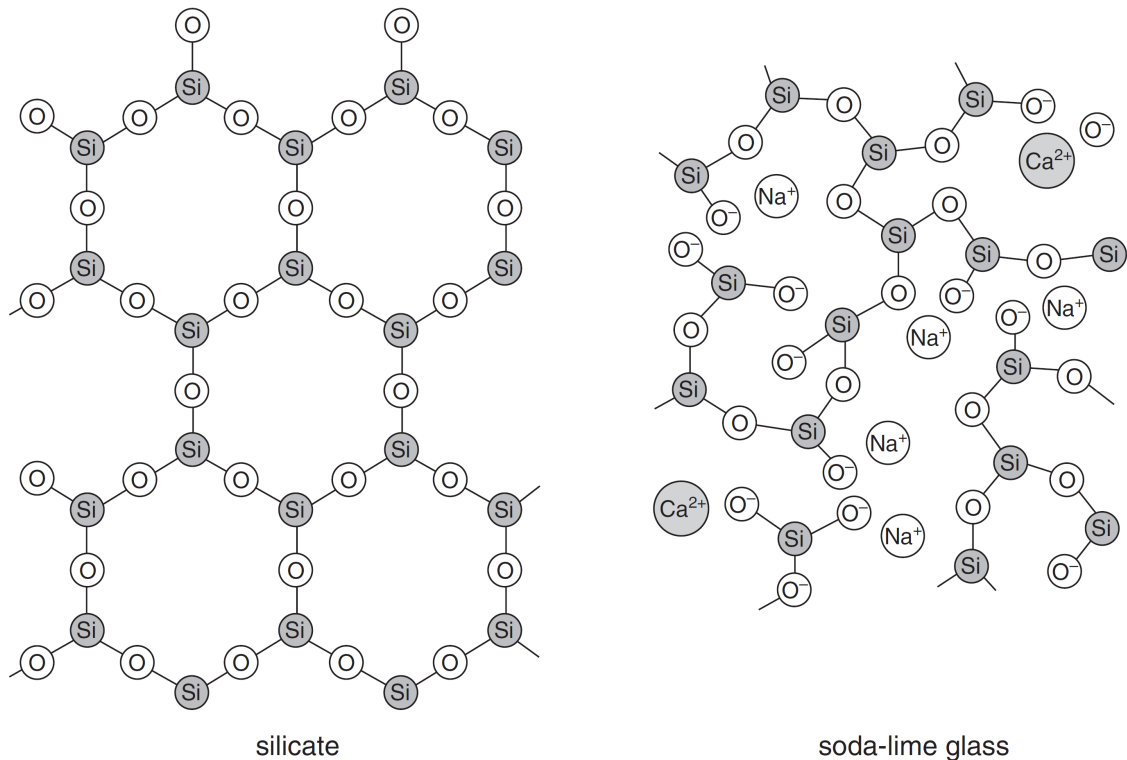

Fig. 7.3
The simplified structures of a silicate and soda-lime glass are shown in Fig. 7.3.
- (f) With reference to Fig. 7.3, explain why the silicate has a higher melting point than soda-lime glass.